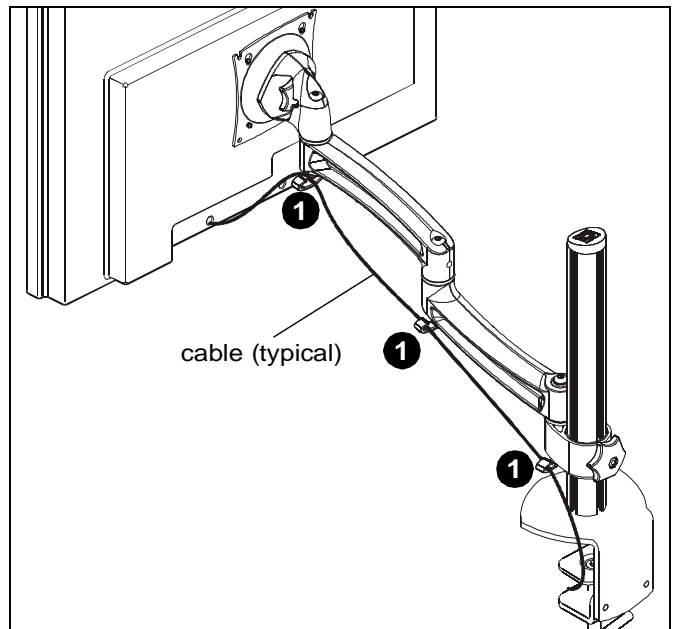

Figure 13
1. Route cables through cable management channels. (See Figure 13)